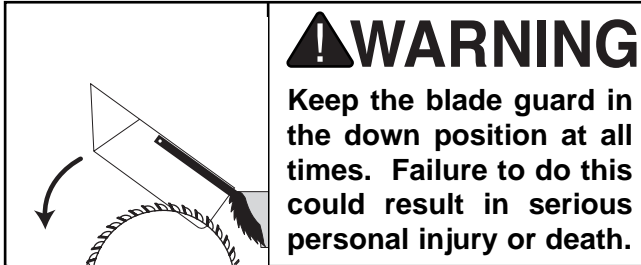

Figure 30. Typical cross-cut operation.
7. Hold the workpiece firmly against the face of the miter gauge and ease it into the blade as shown in **Figure 30**.